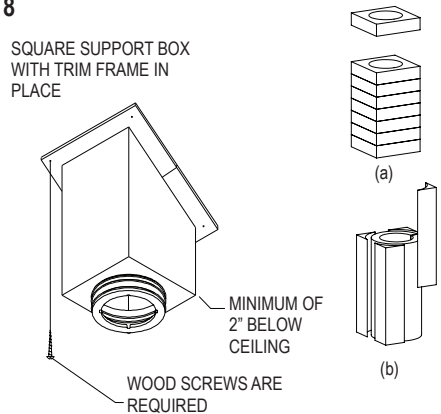
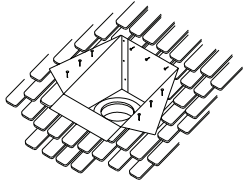

Figure 9
Figure 21
(**Fig.9**). For installation into a cathedral ceiling, you must use the Square Ceiling Support Box or Reduced Clearance Support Box and the two-piece Trim. The bottom of the square portion of the Support Box must be a minimum of 2" lower (round portion is then an additional 3" lower) than the finished ceiling at the lowest side of the penetration (**Fig.9**). Level the Support Box and secure it to the framing using at least three (3) 8-penny nails per side (minimum of 12 nails total), or a minimum of (3) #8, 1-1/2" wood screws. Adjust the overlapping "U-shaped" Trim pieces so they cover the Support Box, and secure them to the
framing members using the (6) 1-1/4" round head wood screws provided (**Fig.9**).
Box into the framed opening so the square portion projects at least 2" below the finished ceiling and rafters (bottom of round portion is 5" below, **Fig.7**), and extends above the ceiling to framing or decking materials to which it can be nailed. Level the Support Box, and slit the corners to the roofline where they extend beyond it. Bend the flaps (created by the slitting) flush with the roof, and nail the Support Box to the roof or framing with at least three (3) 8-penny nails, or (3) 1-1/2", #8 screws, per side (**Fig.21**). Be sure to keep the Support Box level. Screw the trim sections into the ceiling (**Fig.9**). Refer to step 3-A of the Ceiling Supported Installation instructions if you choose to insulate the Support Box.